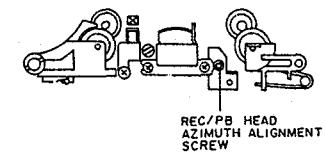

Fig. 5-6
- 1) Remove the TAPE GUIDE (A) HEIGHT ADJUSTMENT @ SCREW (Refer to Fig. 5-6), then remove the SUPPLY PINCH ROLLER BLK.